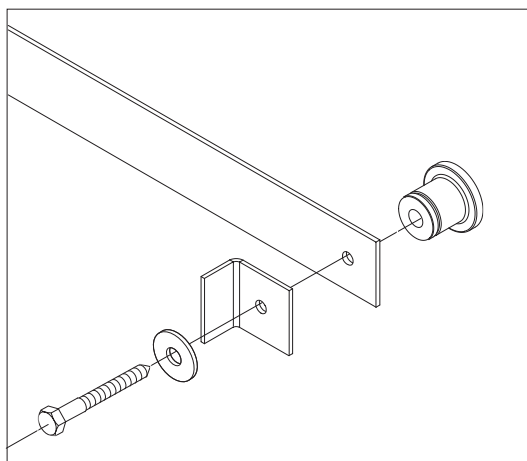

Figure 4
7. Attach one end of the track to the wall with one soft stop, one lag screw, and one washer (provided) using a socket wrench with 9/16" socket. (Figure 4). Do not tighten.